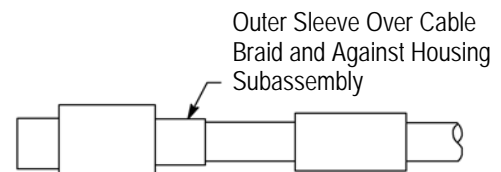

Figure 3
- Heat the center contact with a soldering iron, then carefully push the center contact over the cable conductor until it rests firmly against the dielectric. Refer to Figure 3, Detail A. Remove excess solder and splatter.
- Insert the center contact into the back of the housing subassembly until it is firmly seated. Make sure that the center contact enters the contact inside the housing subassembly. Do not allow the cable braid to enter the housing subassembly. Refer to Figure 3, Detail B.
- Slide the outer sleeve over the braid and against the housing subassembly. Holding the cable firmly in position, crimp the outer sleeve in place. Trim excess braid strands. Refer to Figure 3, Detail C.